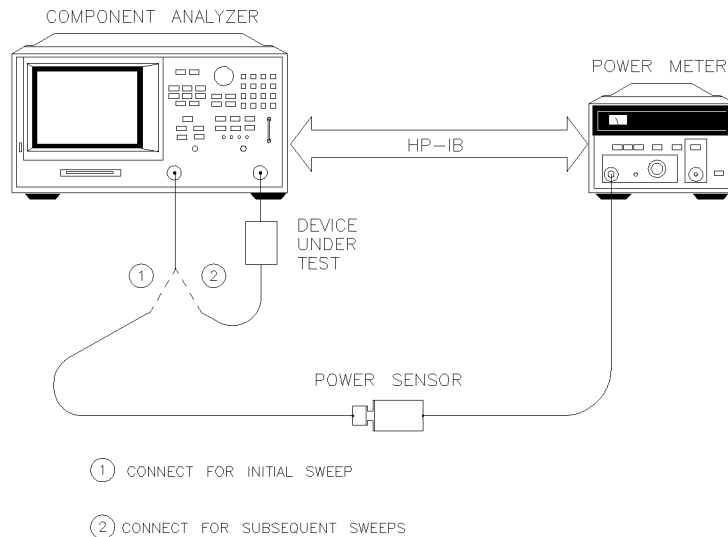

Figure 13-7. Sample-and-Sweep Mode for Power Meter Calibration
- 1 Connect the equipment as shown in Figure 13-7.